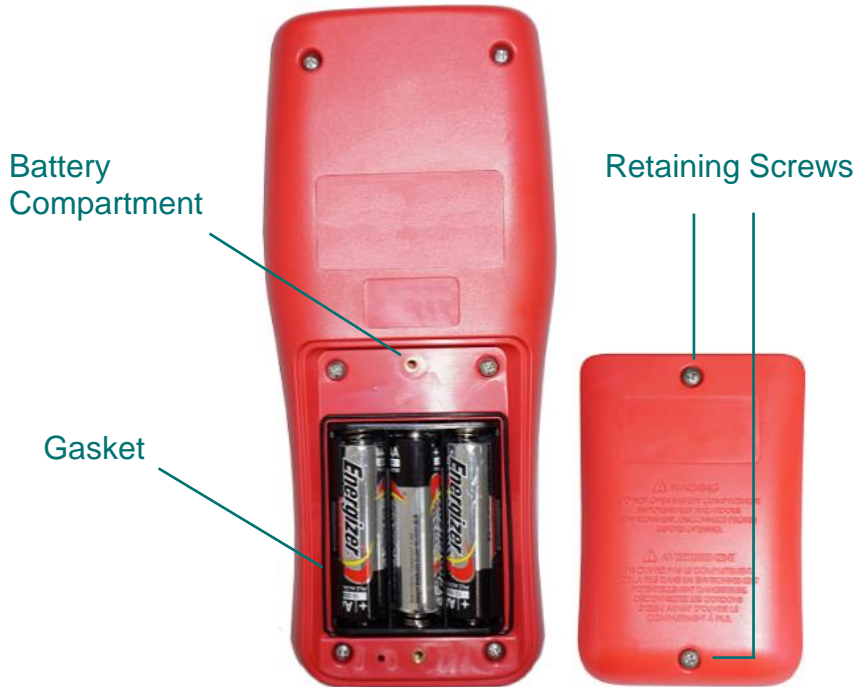

Figure 1: Battery Installation
1. Identify the battery compartment located on the back of the instrument ( see *Figure 1 below*);
2. Remove the two (2) battery compartment retaining screws;
6. Observing proper polarity, install three (3) new, AA alkaline (IEC LR6, ANSI 15) batteries;
7. Re-install the battery cover and two (2) retaining screws;